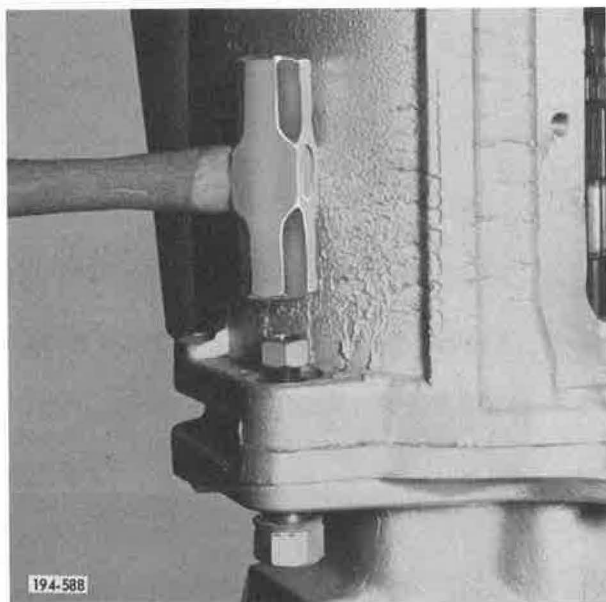

Figure 5-693. Removing Dowel Bolt
29. With nut still engaging dowel bolt threads, drive dowel bolt out. See **Figure 5-693**.